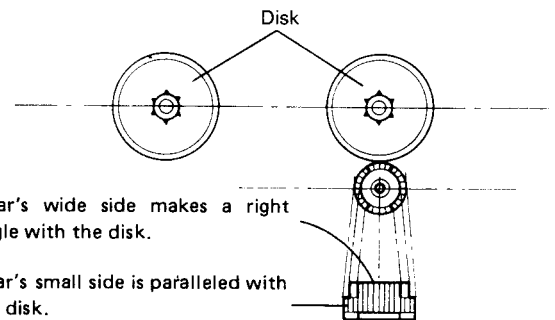

Fig. 6-13
a) When setting the cam gear, make sure of its positioning so that the gear's wide side makes a right angle with the disk, while its small side is in parallel with the disk as shown in Fig. 6-13.